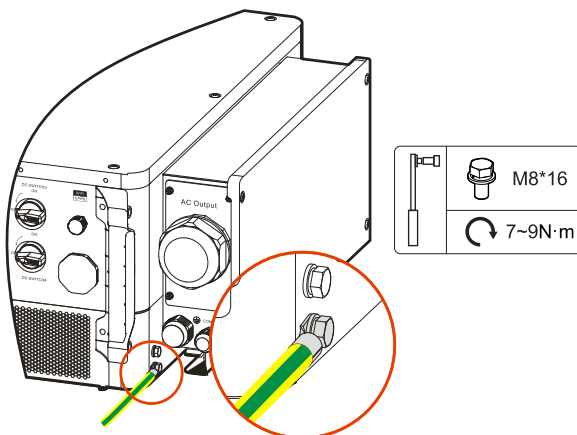

Figure3-27 Schematic diagram of the ground connection
Step 2 Connect the crimped ground wire to the external ground terminal at the bottom of the inverter, as shown in Figure3-27.